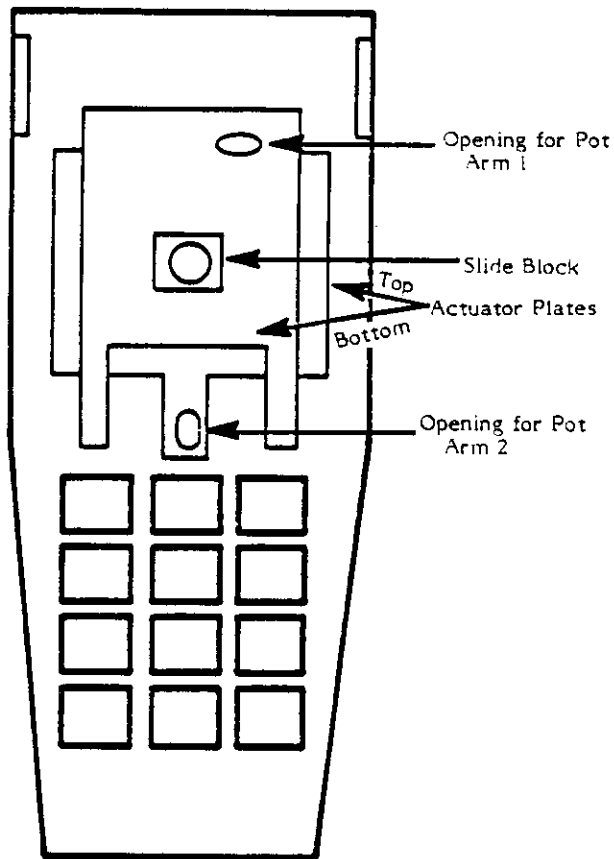

Figure 6-5. Controller Top (Underside)
**NOTE:** The actuator plates must be replaced as a complete unit which includes the two actuator plates and the slide block (see Figure 6-5).
- The actuator plates are correctly positioned in the top controller case (refer to Figure 6-5).
- The pot arms are set into the holes in the actuator plates (refer to Figure 6-5).